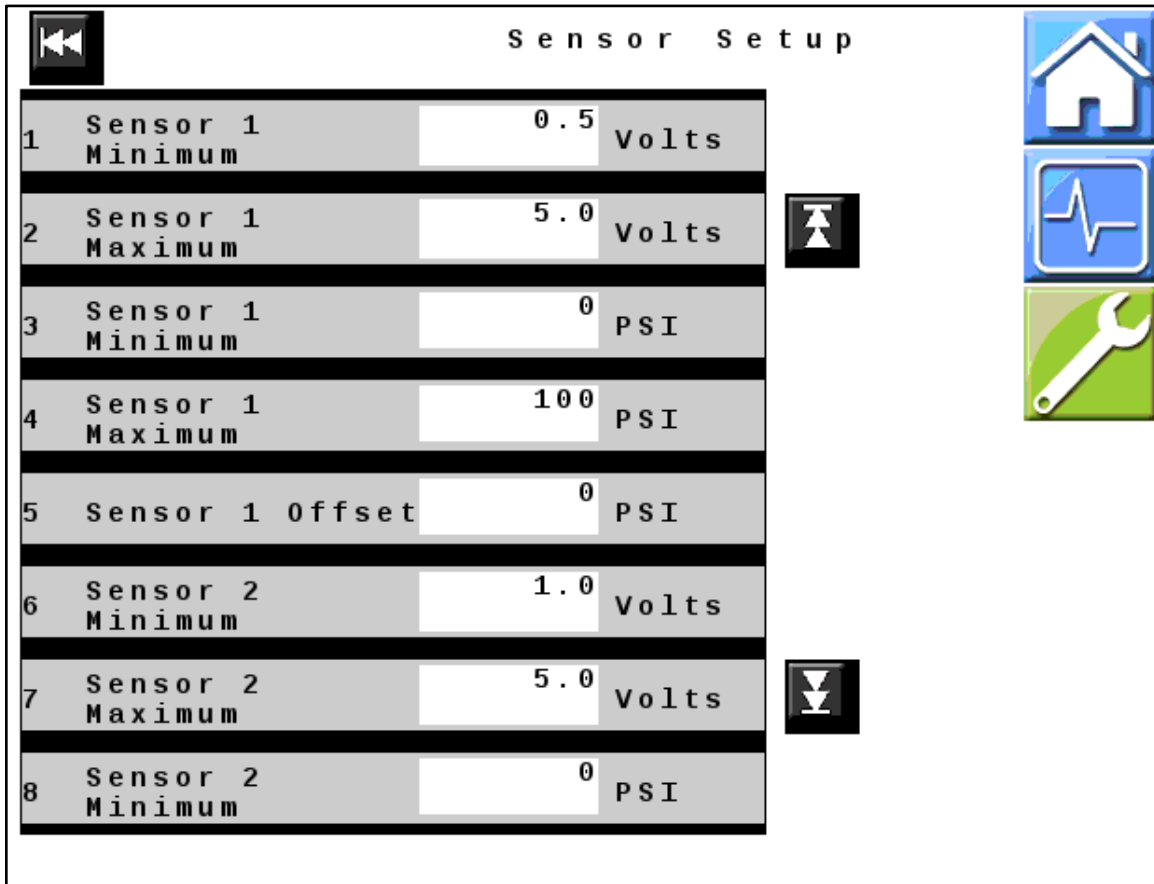

Figure 13 — Sensor Setup Page 1 (Capstan Pressure Sensor)
24. *Figure 13*: If the machine will be using a Capstan pressure sensor, verify that all values displayed on your unit match those shown here. Change values if necessary.